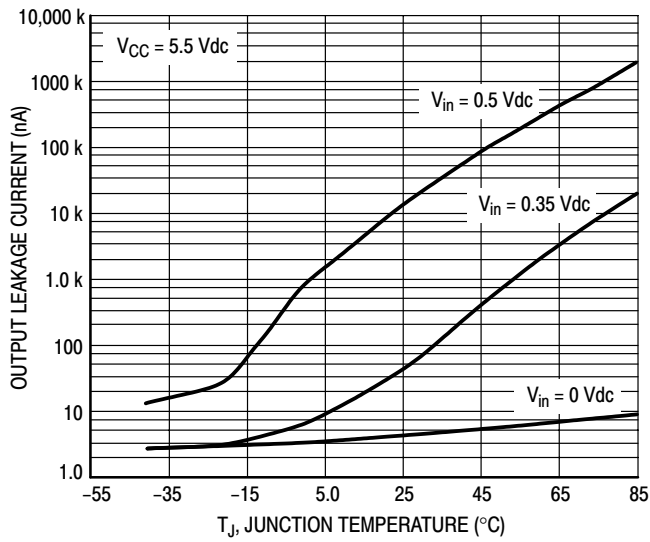

Figure 8. Output Leakage Current versus Temperature
8. Using Figures 8 & 9, insure that “OFF” state leakage over temperature and voltage extremes does not violate any system requirements.